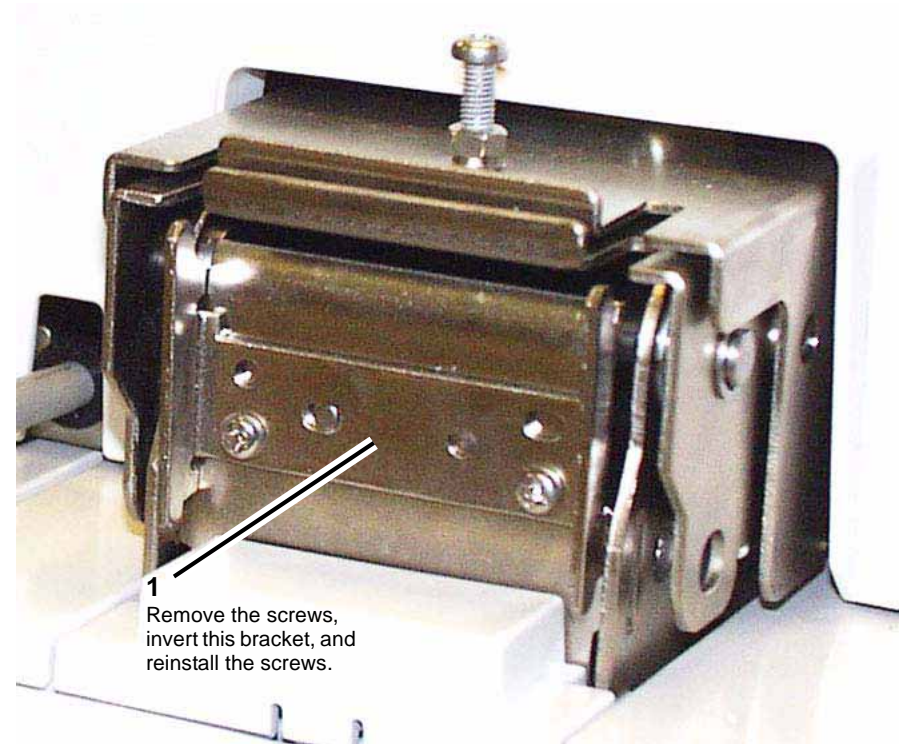

Figure 1 Counter Balance bracket
1. Remove the (2) screws on the bracket on the back of the Left Counter Balance, flip the bracket upside down, and reinstall the screws. PL 14.3 Figure 1